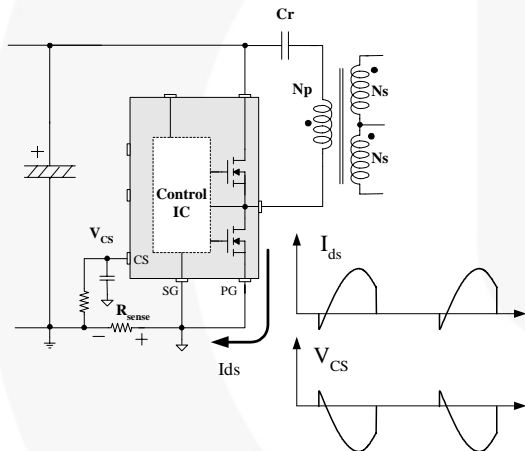
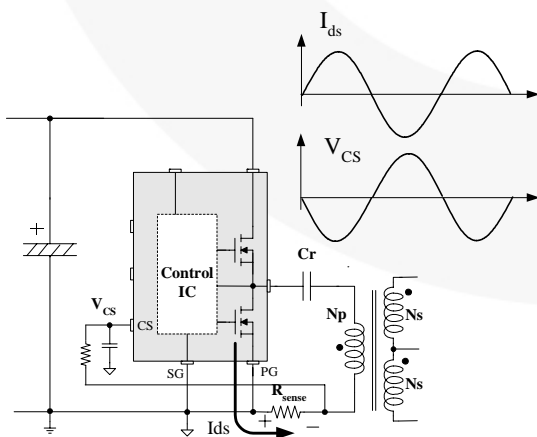

Figure 25. Half-wave Sensing
Figure 26. Full-wave Sensing
**Current Sensing Using Resistor:** FSFR-series senses drain current as a negative voltage, as shown in Figure 25 and Figure 26. Half-wave sensing allows low power dissipation in the sensing resistor while full-wave sensing has less switching noise in the sensing signal.